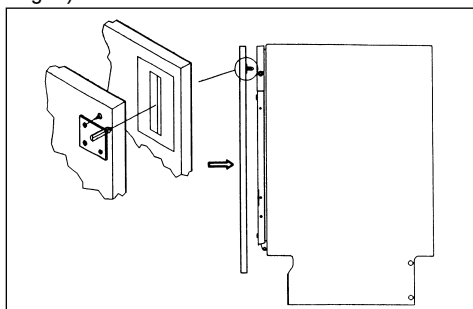
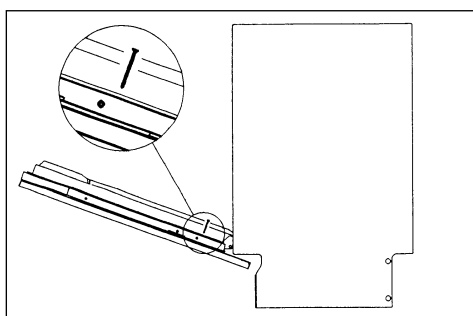

fig. 18a
fig. 18b
- Attach the panel to the door of the dishwasher by pressing the upper pins (fig. 18a) into the slots of the plastic section. Slide the panel up a little. Screw the panel tight from the inside, as shown in figure 18b.